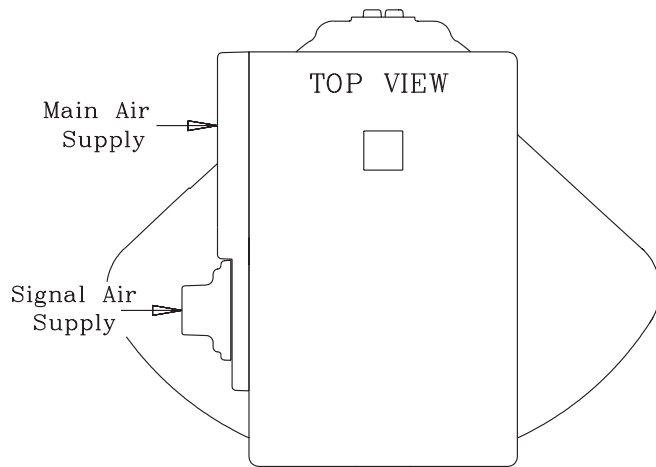

Figure 1. Mid Travel Orientation of Actuator Square and Positioner Box
2.1.1 Move actuator vane to mid travel position, with its output square as shown in Figure 1. This is advisable to prevent subsequent error in orientating positioner coupling. (This is not necessary with spring return actuators as there can be no confusion with square orientation)
2.1.3 Bolt the positioner body to the actuator in the orientation shown in figure 1 taking care that the two O’rings are in place to seal the ports to the actuator (place a small amount of grease onto the O’rings to keep them in place) and that the actuator shaft is centred in the body.